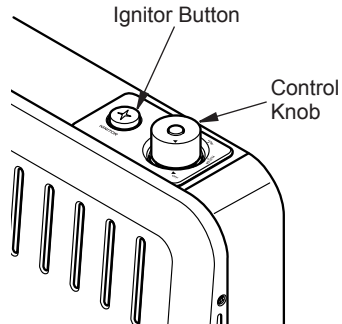

Figure 21 - Control Knob in the OFF Position
4. Wait five (5) minutes to clear out any air. Then smell for gas, including near the floor. If you smell gas, STOP! Follow "B" in the safety information above. If you do not smell gas, go to the next step.
5. Turn control knob counterclockwise ↺ to the PILOT position. Press in control knob for five (5) seconds (see Figure 21).
*Note: The first time that the heater is operated after connecting the gas supply, the control knob should be pressed for about thirty (30) seconds. This will allow air to bleed from the gas system. If pilot does not stay lit, refer to Troubleshooting, pages 23 through 26. Also contact a qualified service technician or gas supplier for repairs. Until repairs are made, light pilot with match.*